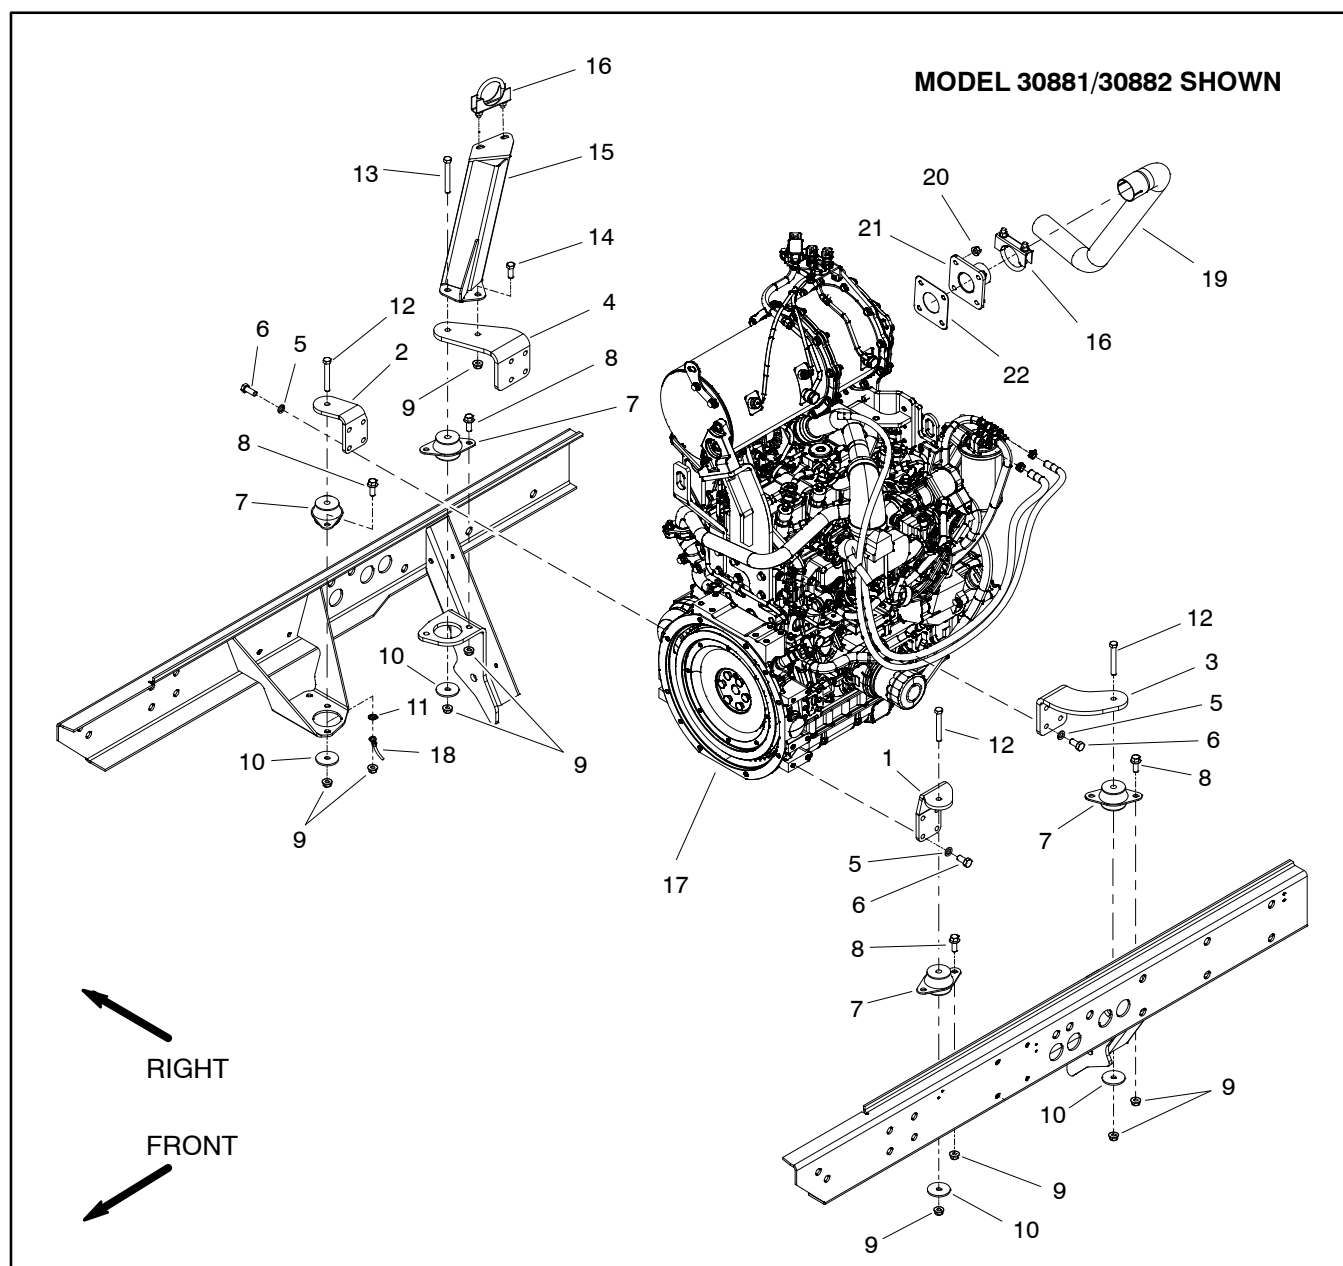

Figure 13
## Engine Removal (Fig. 13)
15. If necessary, remove exhaust tailpipe, tailpipe support and engine mount brackets from the engine using Figure 13 as a guide.
### Engine Installation (Fig. 13)
1. If removed, install engine mount brackets, tailpipe support and exhaust tailpipe to the engine using Figure 13 as a guide.